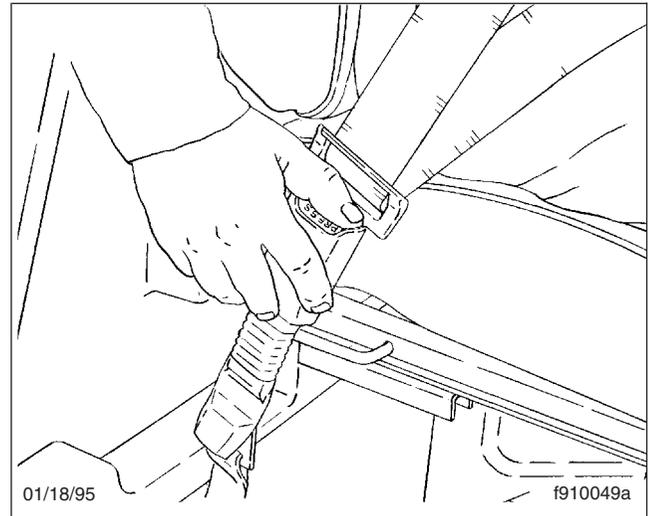

Fig. 3.17, Releasing the Three-Point Seat Belt
5. To unbuckle the three-point seat belt, push the button on the buckle as shown in Fig. 3.17. If the Komfort Latch was locked, release it by giving the shoulder belt a quick tug. If you lean forward